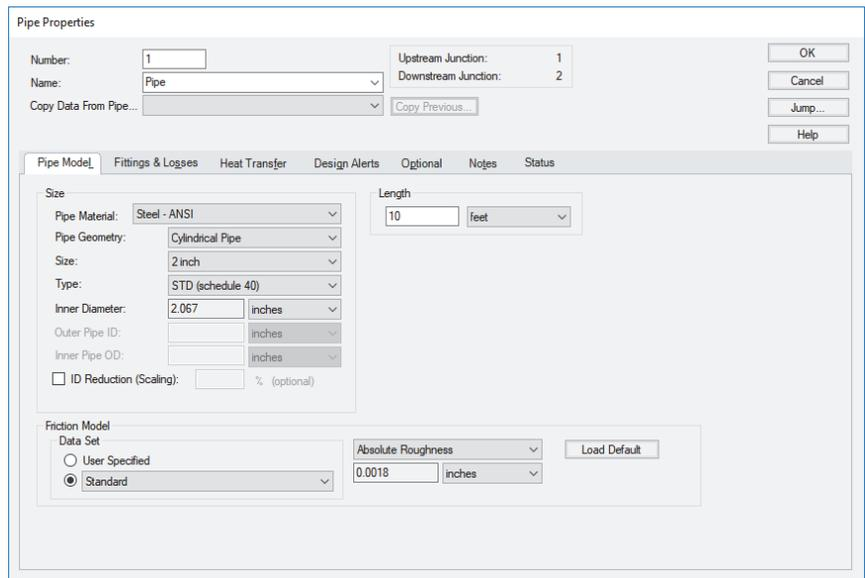

Figure 2.12 Properties window for Pipe P1
- **First, open the Pipe Properties window for Pipe P1** (see Figure 2.12). For Pipe P1 enter Steel - ANSI, 2 inch, STD (schedule 40), Standard friction model, and a length of 10 feet.